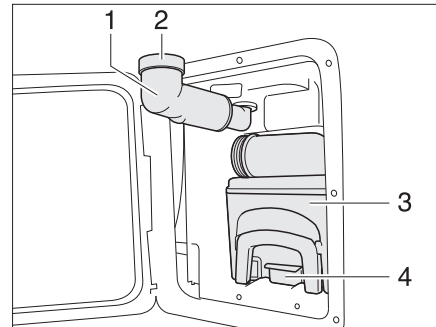

Fig. 141 Thetford cassette
- Swing the fresh water filler neck (Fig. 141,1) towards the outside.
- Remove the screw cap (Fig. 141,2).